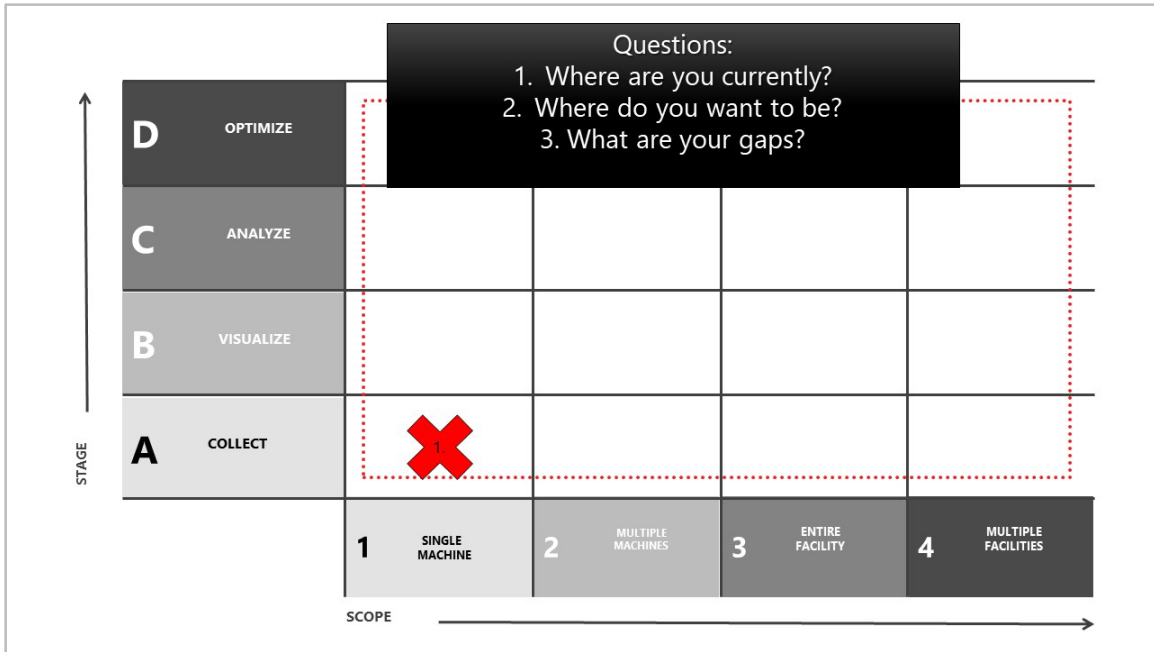

Figure 4. Question 1: Where are you currently (in your digital transformation)?
1. **Where are you currently (in your digital transformation)?** We ask this question because we want to know if the customer has started along their digital transformation path and is currently using some type of digital solution. For example, a customer might say, “We have a test pilot on one machine. We're doing some data collection, but we don't know what we want to do with the data.” So, using the SKML matrix, we draw an “X” at one machine and data collection which signifies where they are currently at the beginning of their digital transformation. (See Figure 4).